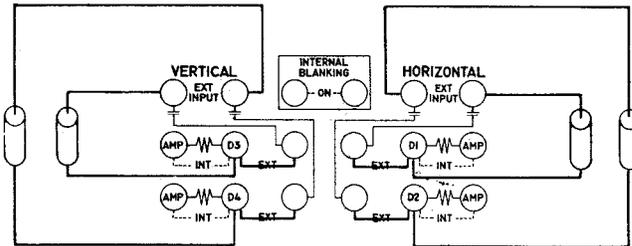

Figure 4-3A—Rear Terminal Board E-110, showing the addition of larger external capacitors.
(1) VERTICAL PLATES.—To apply voltages directly to the vertical deflection plates, change the jumpers on the vertical side of the board from "INT" to "EXT" connection as indicated by the dotted lines on the diagram appearing on the cover of TERMINAL BOARD E110. The deflecting voltages may then be applied to the two terminals marked "EXT. INPUT". These terminals are isolated from the voltage on the deflection plates through capacitors C137 and C138. In observing very low frequency wave forms, the time constant of this input circuit may become objectionable. In this case, larger external capacitors may be connected between the terminals marked "EXT. INPUT" and the terminals marked D3 and D4 (See Figure 4-3A).
(2) HORIZONTAL PLATES.—To apply voltages directly to the horizontal deflection plates, change the jumpers on the horizontal side of the board from "INT" to "EXT" connection as indicated by the dotted lines on the diagram appearing on the cover of TERMINAL BOARD E110. The deflecting voltages may then be applied to the two terminals marked "EXT. INPUT". These terminals are isolated from the voltage on the deflection plates through capacitors C139 and C140. In observing very low frequency wave forms, the time constant of this input circuit may become objectionable. In this case larger external capacitors may be connected between the terminals marked "EXT. INPUT" and the terminals marked D1 and D2 (See Figure 4-3A).